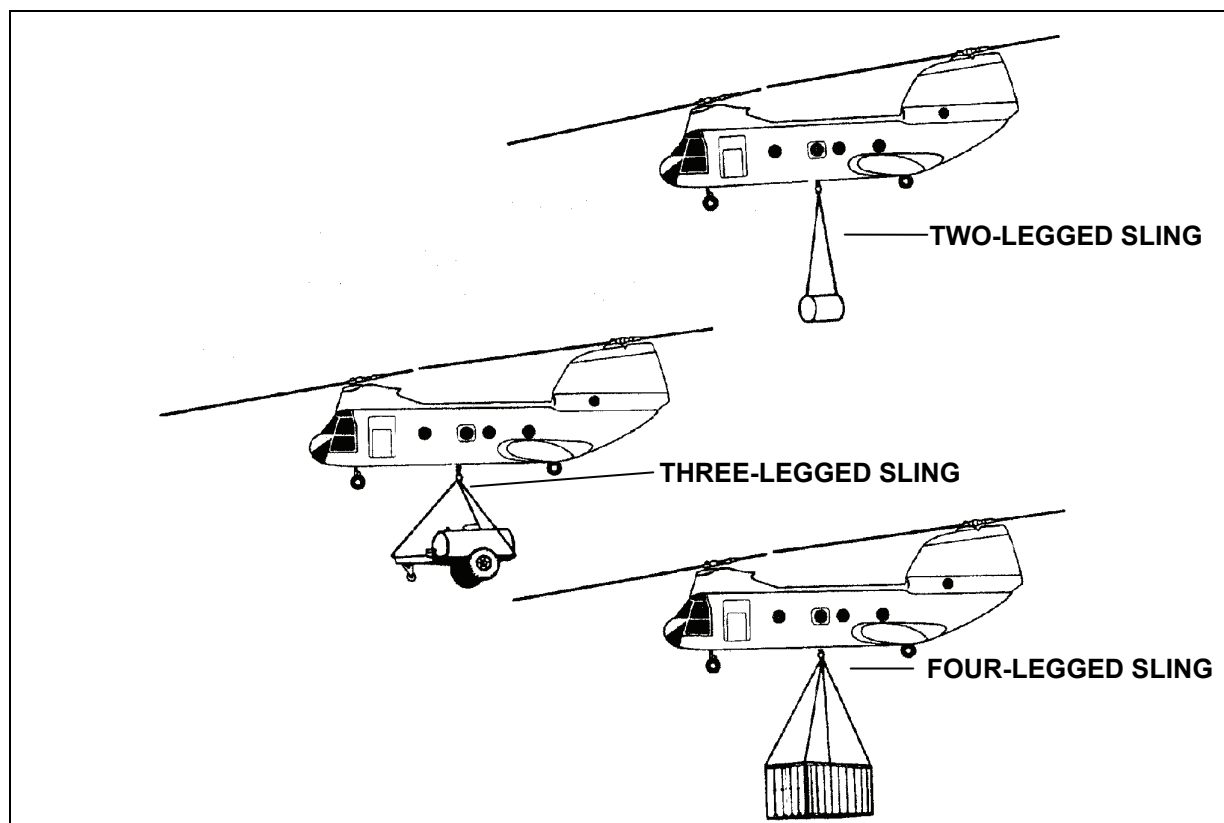

Figure 6-26. Slings with Two, Three, and Four Legs
- Making the Sling Set Fit the Load.** A complete nylon and chain sling consists of four legs. However, legs may be removed to make a two- or three-legged sling (Figure 6-26). The safe working capacity of a two-, three-, and four-legged sling set is 11,120, 15,000 and 15,000 pounds respectively. The capacity of the multileg sling set is different from other sling sets because of the sling leg design. The six steps for adding or subtracting a sling leg are as follows: